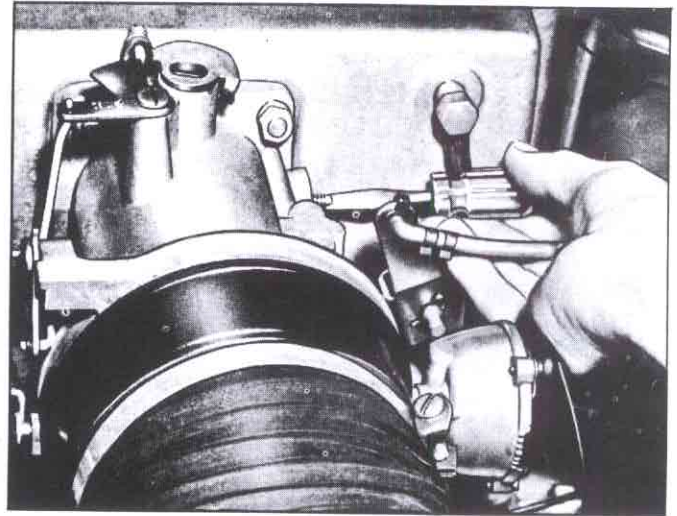

Fig. 63—Idle Fuel Adjustment
2. Adjust idle fuel adjustment screw (fig. 63) to smooth out idle speed.